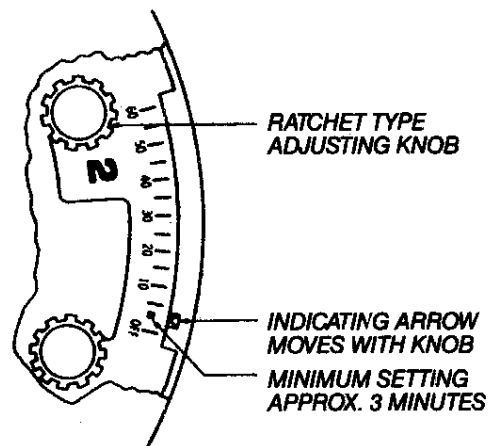

Figure 6
5. Adjust each station TIME control to the 5 minute mark. (See Figure 6.)